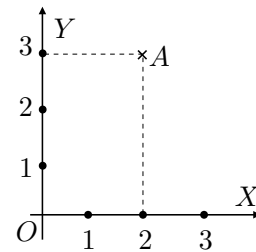

Figure 2: A Point in 2-D Space
4. The following questions pertain to Point  $A$  in Figure 2.